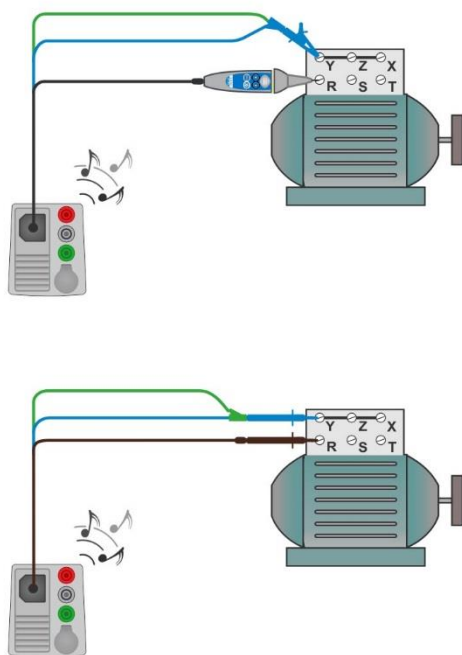

Figure 7.31: Tip commander and 3-wire test lead applications
- › Connect test leads to device under test, see **Figure 7.31**.